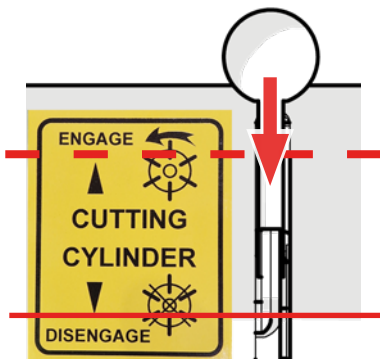

Fig.15F - Disengage the cassette lever.
9. To **stop the cassette spinning**, pull the Cassette Lever towards the rear to the 'disengage' position. Alternatively, release the OPC (Fig.15F).